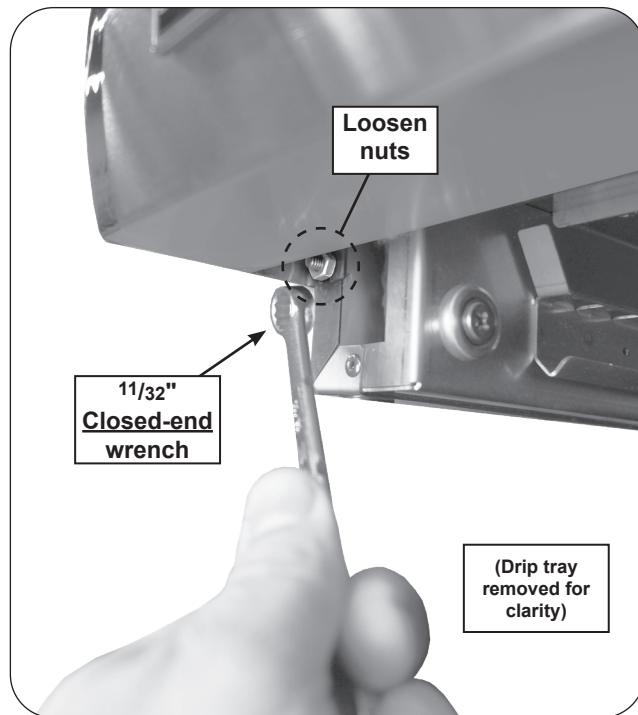

Fig. 38-1 Remove control panel
3. Loosen the nuts underneath the left and right sides of the control panel with a 11/32" wrench (see Fig. 38-1), then lift the panel until it is freed from the screws. Carefully rest the bottom of the control panel on the drip tray. The top of the control panel is supported by the internal chains.